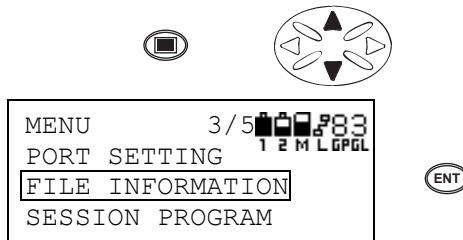

Figure 3-108. Initiate Menu Mode, Scroll to File Information, and Press Enter
1. Press the **menu** key to enter the menu mode. Press the **up/down cursor key** to select FILE INFORMATION and press **ENT** (Figure 3-108).